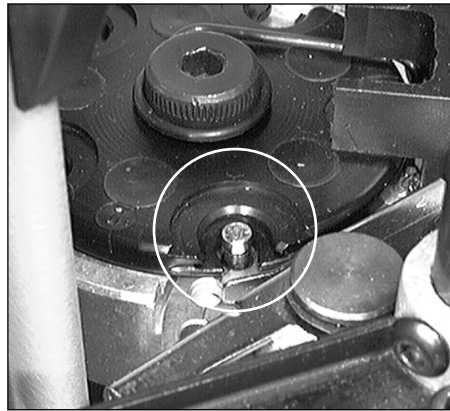
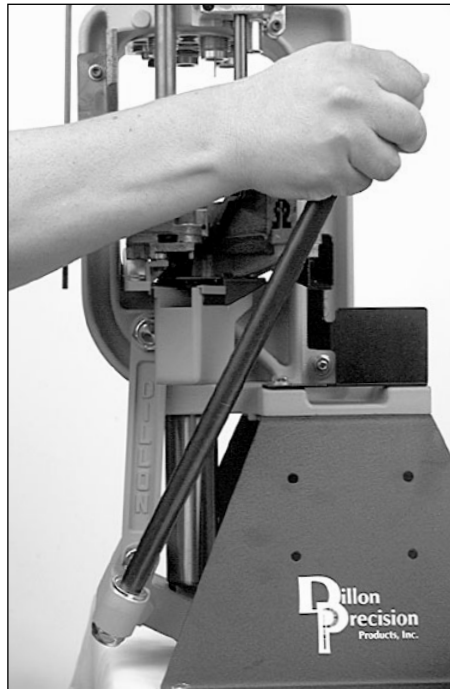

FIG 130
FIG 131
When you cycle the machine, the rotary primer disc rotates one notch, advancing another primer into position. When the handle is pushed to its full aft stop FIG 131, the primer seating punch pushes the primer up through the rotary primer disc FIG 130, fully inserting it onto the primer pocket of the case. If there is no case in Station 2 to receive the primer, the primer will return to the rotary disc and continue around until being dropped down a chute FIG 132 where it can be retrieved.
4. Drop an unprimed case into the case-feed funnel and cycle the machine twice. As the case is rotated into Station 2, complete the downstroke of the platform by firmly pushing the handle to its full aft stop FIG 131 – this will ensure that the primer is fully seated.